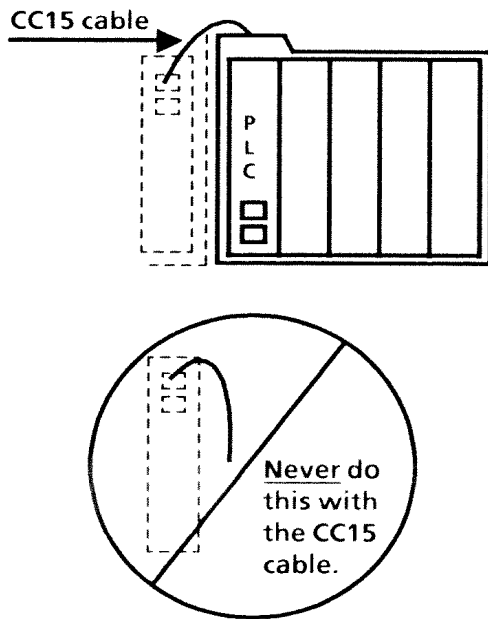

Figure 3-7 Proper CC15 Cable Orientation
- Make sure that the CC15 cable is always routed in the **upward** direction from the P1 connector toward the rack. Mount the power supply on the side of or below the rack to which it will supply power (see Figure 3-7).